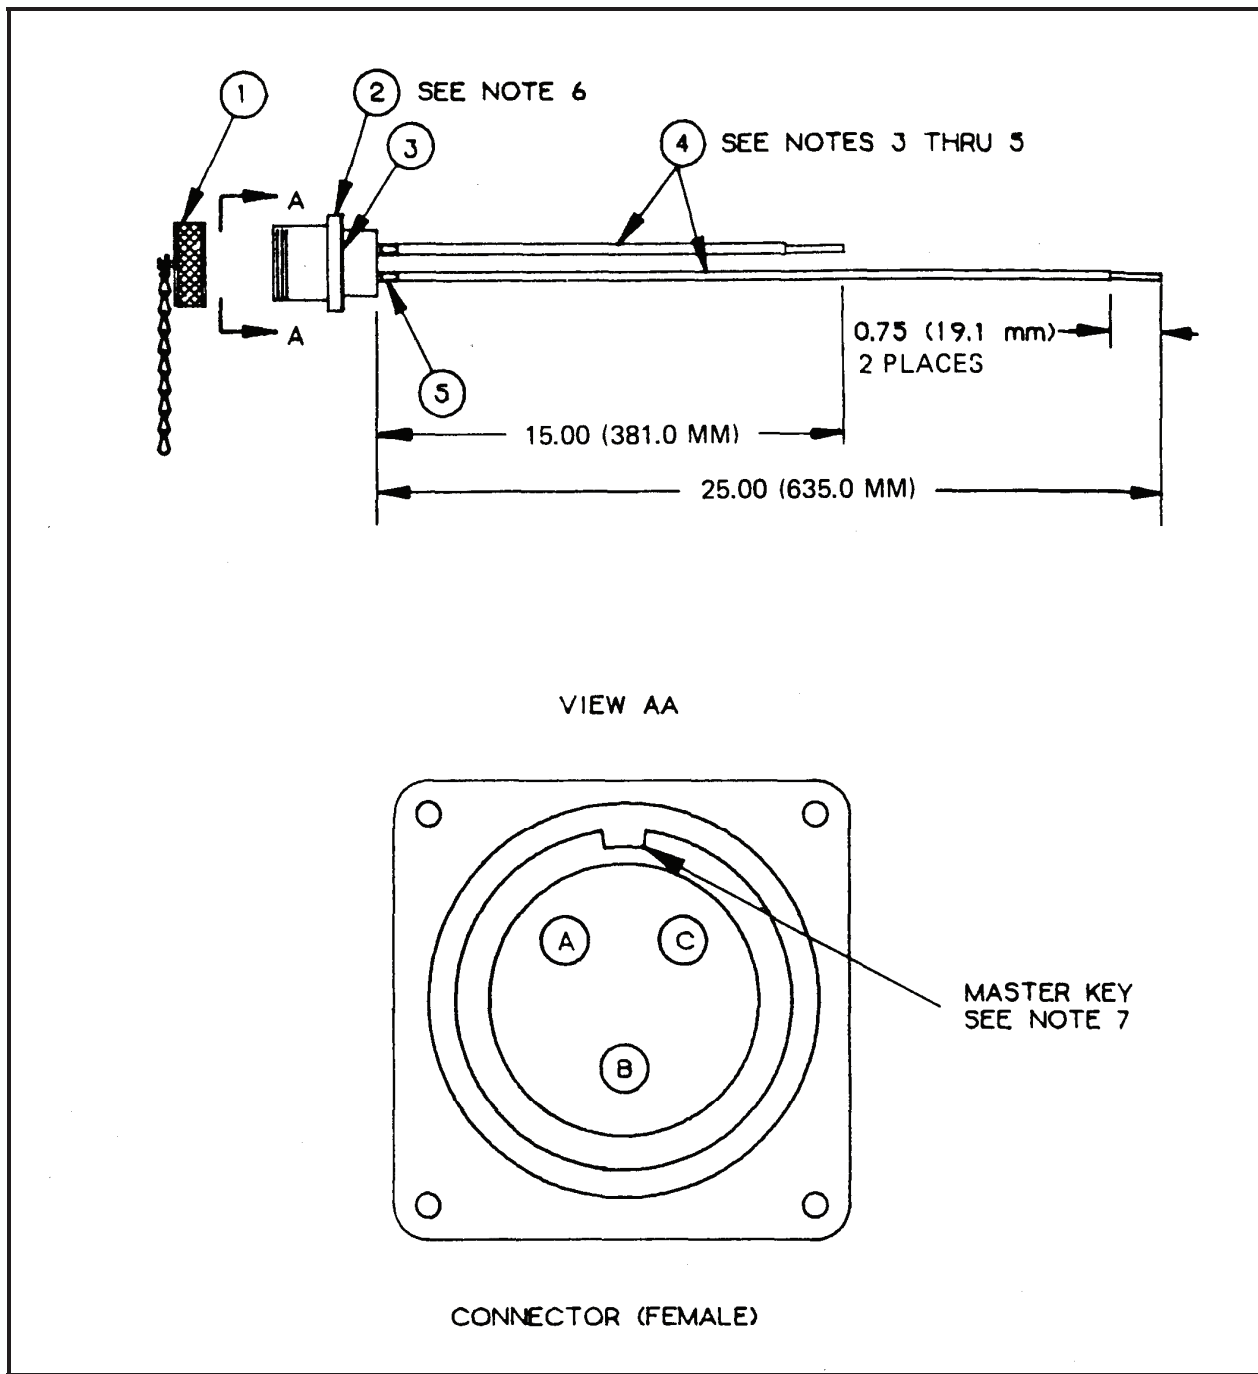

Figure F-35. Feeder Center Output Connector Assembly, M100 A/P (PDISE) 20-Amp, (J7)
Component Legend for Figure F-35
- c. Electrical connector (Figure F-35, Item 2) is furnished with the following: